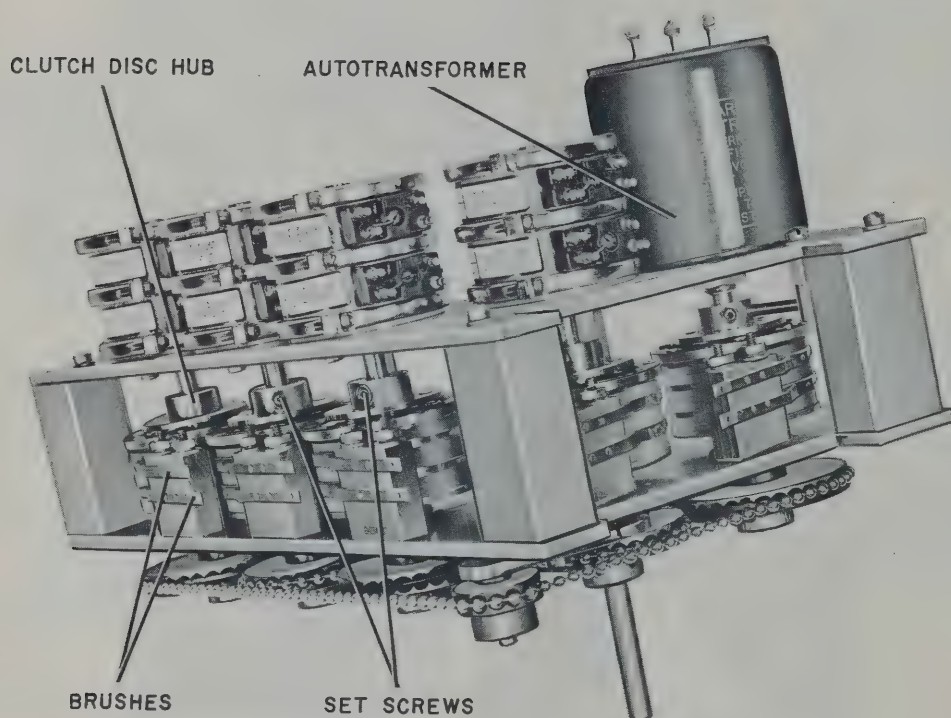

Figure 5-7. Magnetic Clutch Assembly Showing Adjustment Points
5-24. Each brush (figure 5-7) of the magnetic clutch assembly should exert between 15 and 35 grams of pressure on its associated slip ring to insure adequate wiping
c. Loosen the set screws (figure 5-7) on clutch disc and push the clutch disc against the shim.